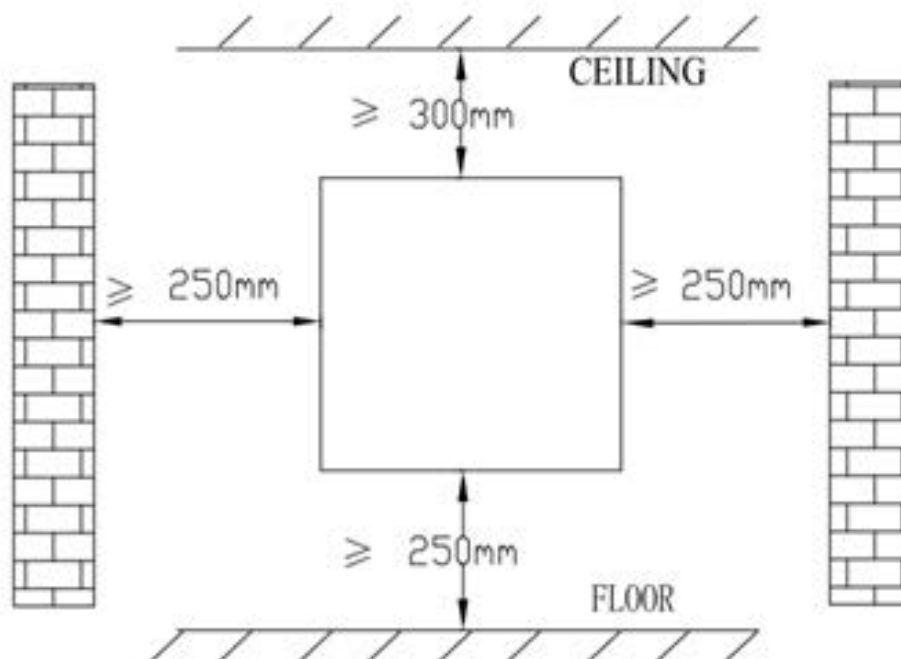

Figure 1: Minimum distances from radiator to other objects
1. Choose the wall mounting position, respecting the minimum clearance distances from the surrounding walls, ceilings, or fixed objects (**Figure 1**).
- Do NOT place radiator within the minimum clearance distances stated in **Figure 1**.